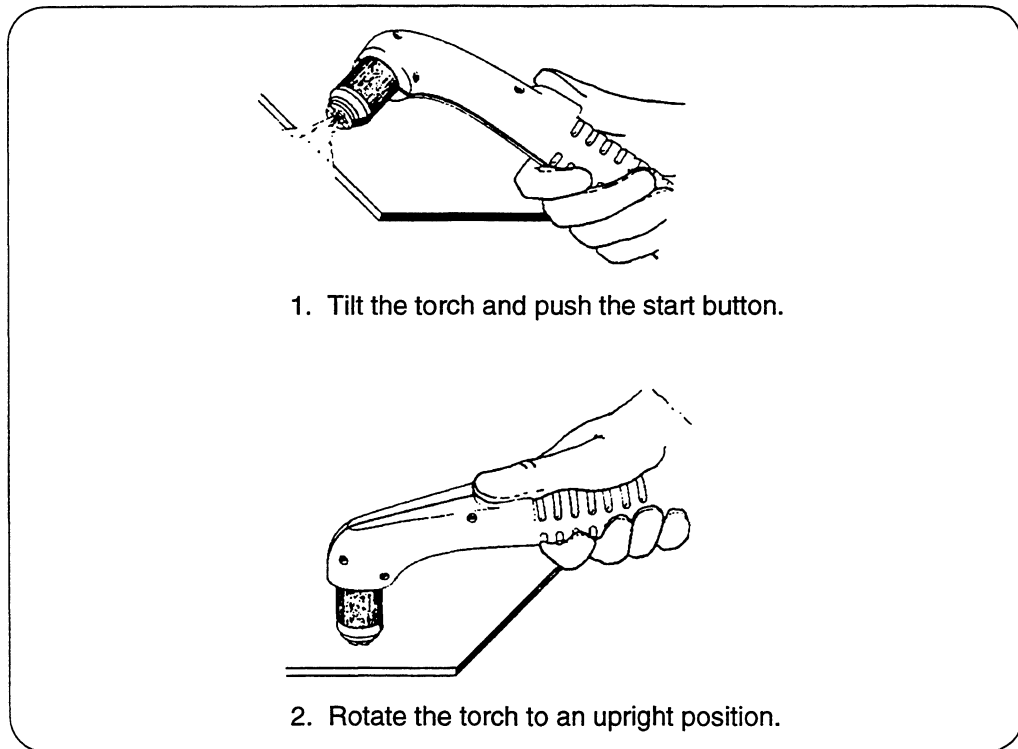

Figure 4-7 Piercing
- Start the cut at an angle rather than in an upright position. This method permits the hot metal to escape to one side rather than splashing back against the nozzle, protecting the operator from the sparks and extending the torch nozzle life (Fig. 4-7).